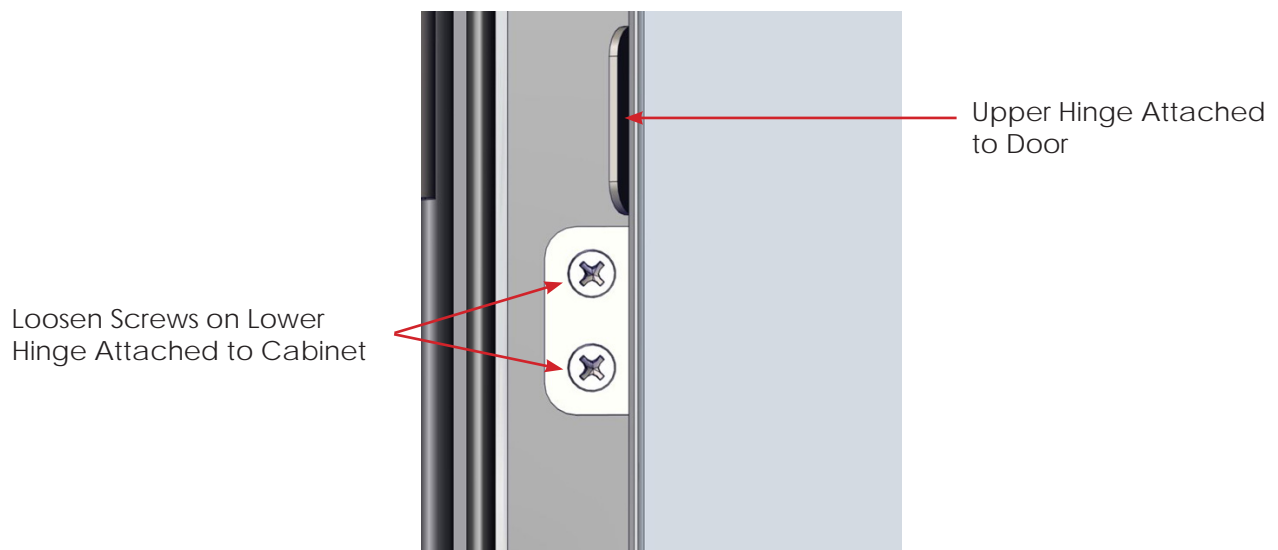

Fig. 25: Loosen Hinge Screws
1. Open one door fully and loosen the screws on the hinges that attach to the sides of the cabinet (two screws per hinge) (Fig. 25)